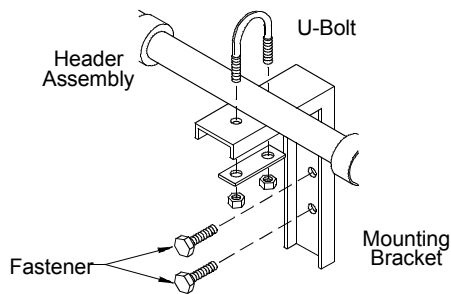

FIGURE 4
4. Mark a distance of 17" to the right and left of the center line. Mark the mounting holes and install brackets using fasteners suitable for the type of wall construction. (Figure 4)
8. Mark the mounting hole and install fasteners suitable for type of wall construction. (Figure 4)